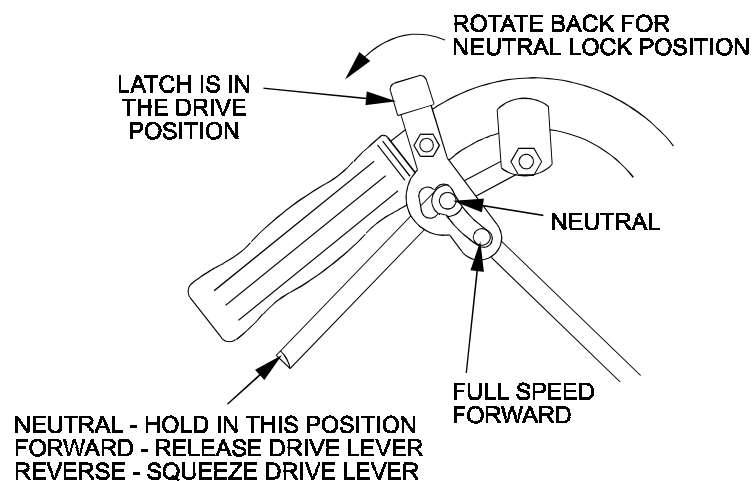

FIG. 4
- 4.1.1 Drive Levers: Located on each side of the upper handle assembly directly below the handle grips (See Figure 4). These levers individually control the speed and direction of each drive wheel. When the speed control lever is moved out of the neutral position and the neutral lock latches are moved into the drive position, as shown in Figure 4, and the drive levers are released, the drive wheels are engaged in the forward direction.
- 4.1.2 Neutral Lock Latch: Located directly above the drive levers. These latches allow the operator to lock the drive levers in a "neutral" position where neither of the drive wheels are engaged in either a forward or reverse direction. See Figure 4.
- 4.3.3 Drive Lever/Neutral Lock Latch Operation: To lock the drive levers in neutral, squeeze the drive levers back to the neutral position (**Do Not squeeze the drive levers all the way back as this will cause the drive wheels to go into full reverse direction**). Place thumbs on the upper portion of the neutral lock latches and move them to the rear. Release drive levers (See Figure 4).
For straight ahead motion, smoothly release both drive levers to engage drive wheels. Squeeze the right hand drive lever to turn right and the left hand drive lever to turn left. To make a “zero turn”, squeeze either the left hand or the right hand drive lever back into the reverse position while the opposite drive lever is in a forward position at an equal but opposite speed. To back up, squeeze both drive levers into the reverse position (See Figure 4).